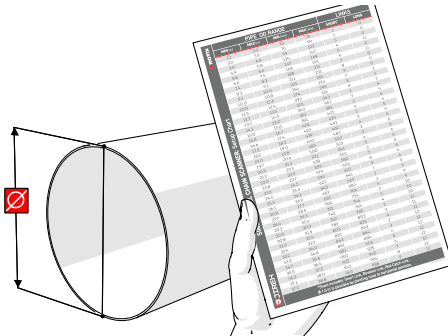

Fig. 143 - Refer to setup chart
1. Determine the diameter of the pipe or tube to be scanned. Included in the **ROTIX** kit is a setup chart which will indicate the number of links required based on the diameter of the pipe or tubing (Fig. 143).